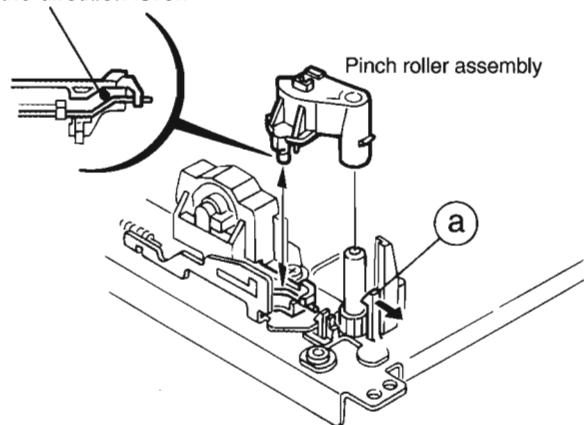

Fig.4
■ Pinch roller(FWD/REV)removal (See Fig.4)